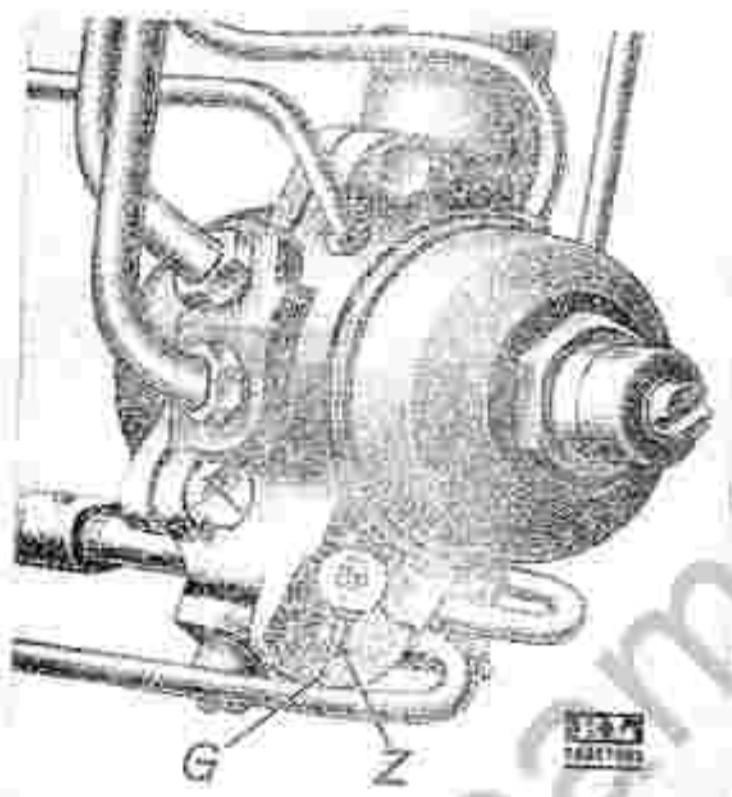

Fig. 21.
The oiler pump (23), Fig. 18, for supplying lubricating oil to piston and cylinder is also actuated by steel plate (17) and adjusted by its adjusting screw (22) in a similar way to the other three pumps by their adjusting screws (5). It differs, however, from these pumps in so far as it is primarily adjusted at the Works to supply a quantity of oil equal to twelve quarter turns of the adjusting screw, which quantity cannot be reduced by adjusting screw (22). For this purpose this pump is provided with a two-way adjustment illustrated in Fig. 21, i.e., the primary adjustment by sleeve (2). Adjusting sleeve (2) is secured against turning by circlip (3) and should not be touched by unauthorized person, since its readjustment requires expert knowledge.
ADJUSTMENT OF THE REGULATOR SHAFT - With fuel lever set to mark (1) Fig. 35, the engine running at 300 r.p.m., the pointer (2) Fig. 21, on the regulator shaft must coincide with mark (G) on the oiler housing. Adjustment is effected by tool (10), Fig. 15, on link (9). This adjustment is always necessary when the fuel pump tappet has been readjusted.